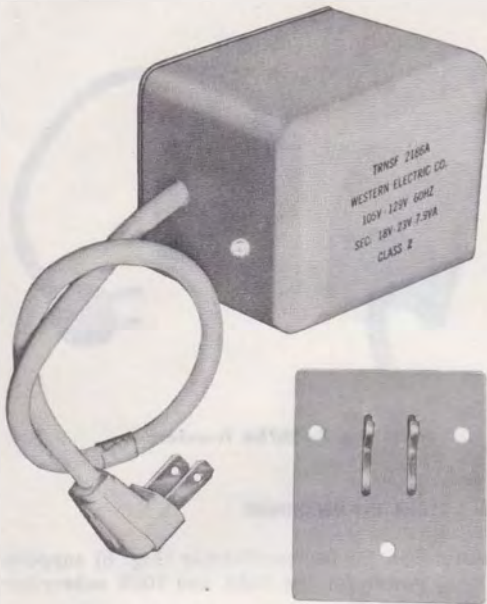

Fig. 8—2186A Transformer
6.01 The 2186A transformer (Fig. 8) supplies power for the 700A and 700B subscriber sets.